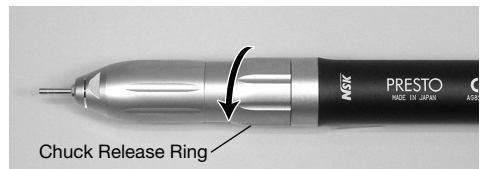

Fig.9
(2) When removing the bur, it can be removed by turning the chuck release ring in the direction of the arrow in Fig.9.